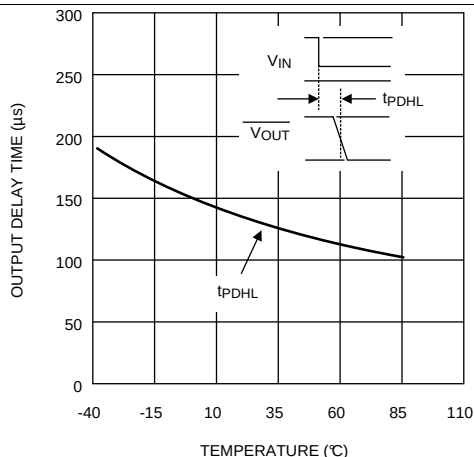

Figure 3. Propagation Delay Time (t_{PDLH}) vs Temperature
** See Figure 3 for tPDHL values